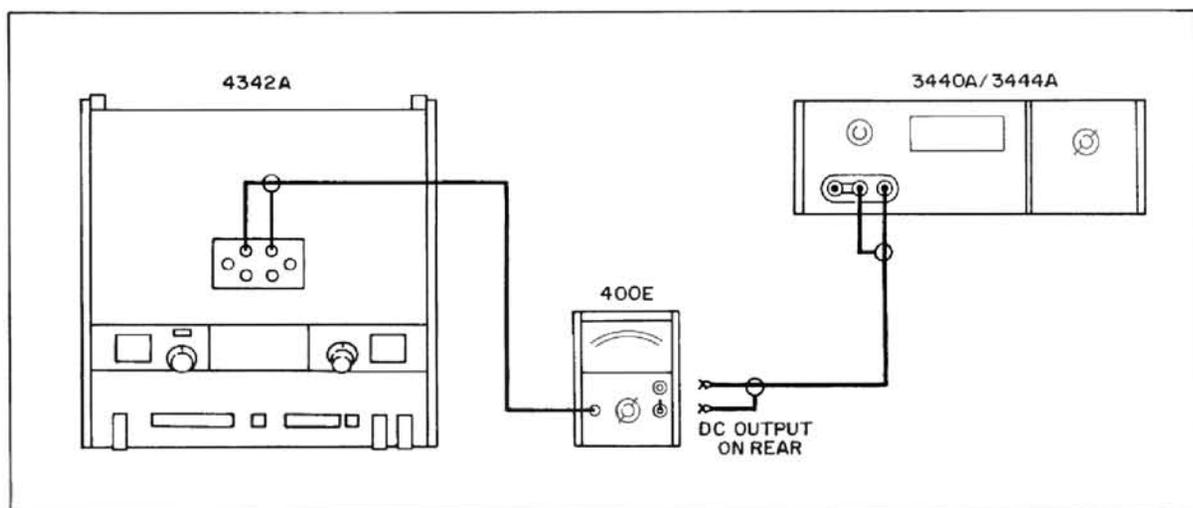

Figure 5-1. Q Range Check
- b. Connect the AC Voltmeter and the Digital Voltmeter to LO and GND terminals as shown in Figure 5-1.